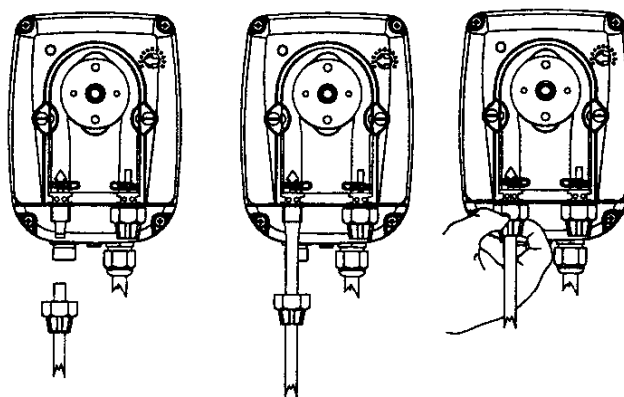

Fig. 6
- d. Slide the hoses over the connectors, pushing them right home, and then fix them with appropriate tube nuts (Fig. 6).